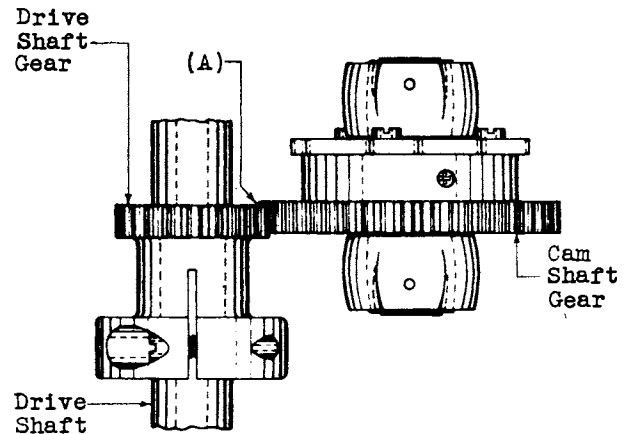

Fig. 5
2.05 Backlash Between Gears - Fig. 5 (A) - This shall be kept as small as possible without causing the gears to bind in any position of their rotation. Gauge by feel.